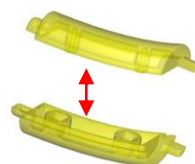

Fig. 9
7. Combine the neck parts (13). (Fig.9)